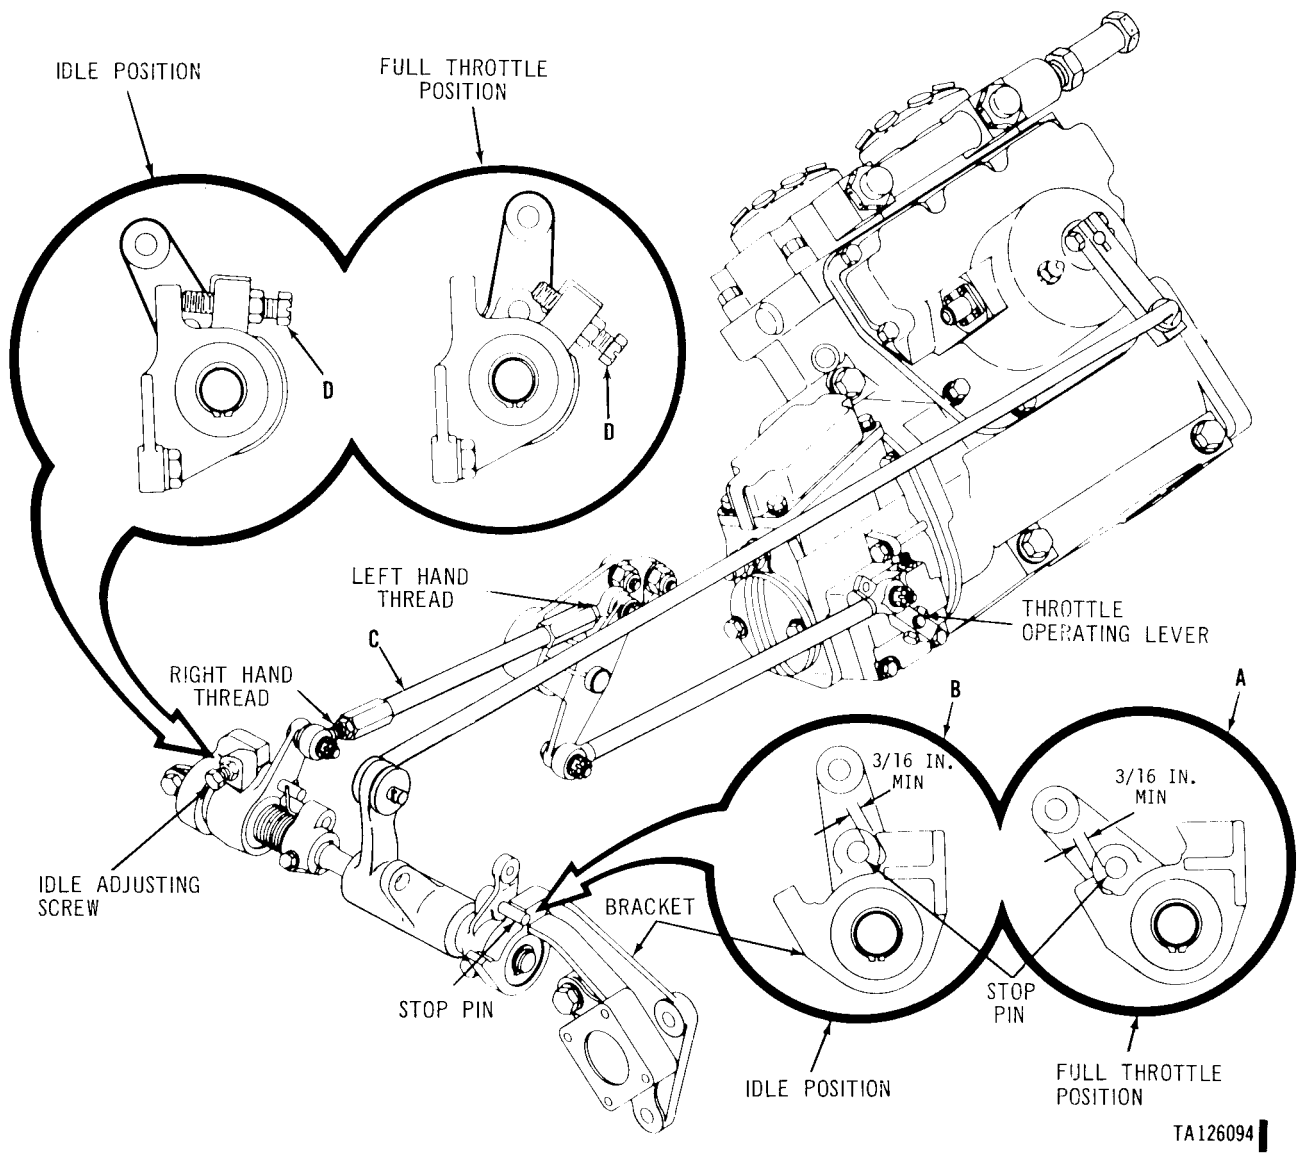

Figure 2-57. Throttle linkage adjustment, model AVDS-1790-2C and AVDS-1790-2D engines.
(14) With throttle linkage in full throttle position (A, fig. 2-57), clearance between lever stop pin and stop on bracket must be 3/16 inch minimum. With throttle linkage in idle position (B), clearance between lever stop pin and stop on bracket must be 3/16 inch minimum. When the foregoing clearances are not met, loosen lock nuts on adjustable rod (C), and adjust rod as necessary to obtain